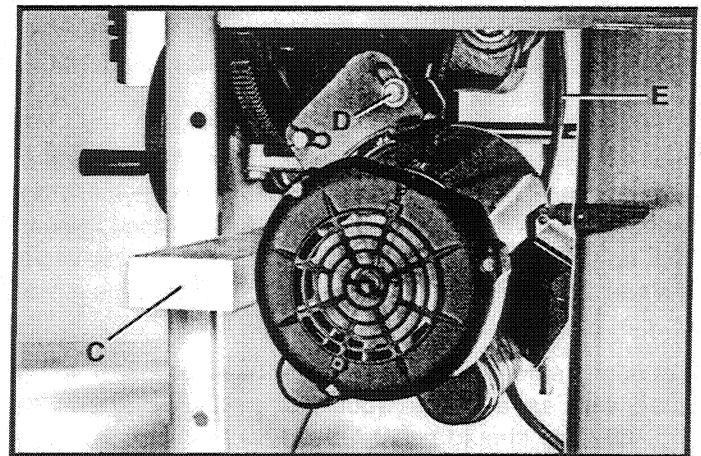
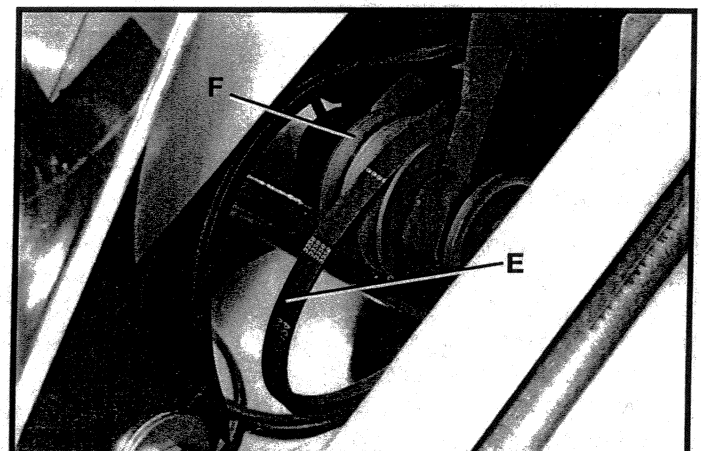

Fig. 77
Fig. 78
3. Place a block of wood (C) Fig. 77, between the motor and saw cabinet as shown. **NOTE:** It may be necessary to raise the saw arbor in order to insert the wooden block. Lower the saw arbor until the motor contacts the wood.
4. Loosen bolt (D) Fig. 77, and continue to lower the saw arbor until all tension is removed from the belts (E). Tighten bolt (D).
5. Raise the saw arbor slightly and remove the block of wood (C) Fig. 77.
6. Lower the saw arbor. Remove the belts (E) Fig. 77, one at a time from the motor pulley.
7. Remove the belts (E) Fig. 78, one at a time from the arbor pulley (F).
8. Assemble the three new belts, one at a time in the grooves of the arbor pulley (F) Fig. 78, and onto the motor pulley.
9. When the new belts are assembled on the arbor pulley (F) Fig. 78 and the motor pulley, loosen screw (D) Fig. 77, and carefully let the motor rest on the belts.
10. Correct belt tension is when there is approximately 1/4" deflection in the center span of the pulleys, using light finger pressure. After tension is applied, tighten screw (D) Fig. 77.